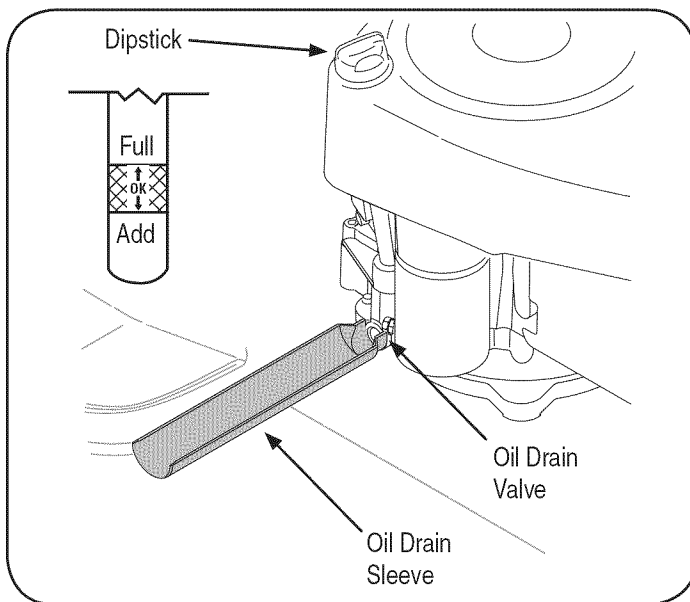

Figure 11
2. Remove the oil fill cap/dipstick from the oil fill tube. See Figure 11.